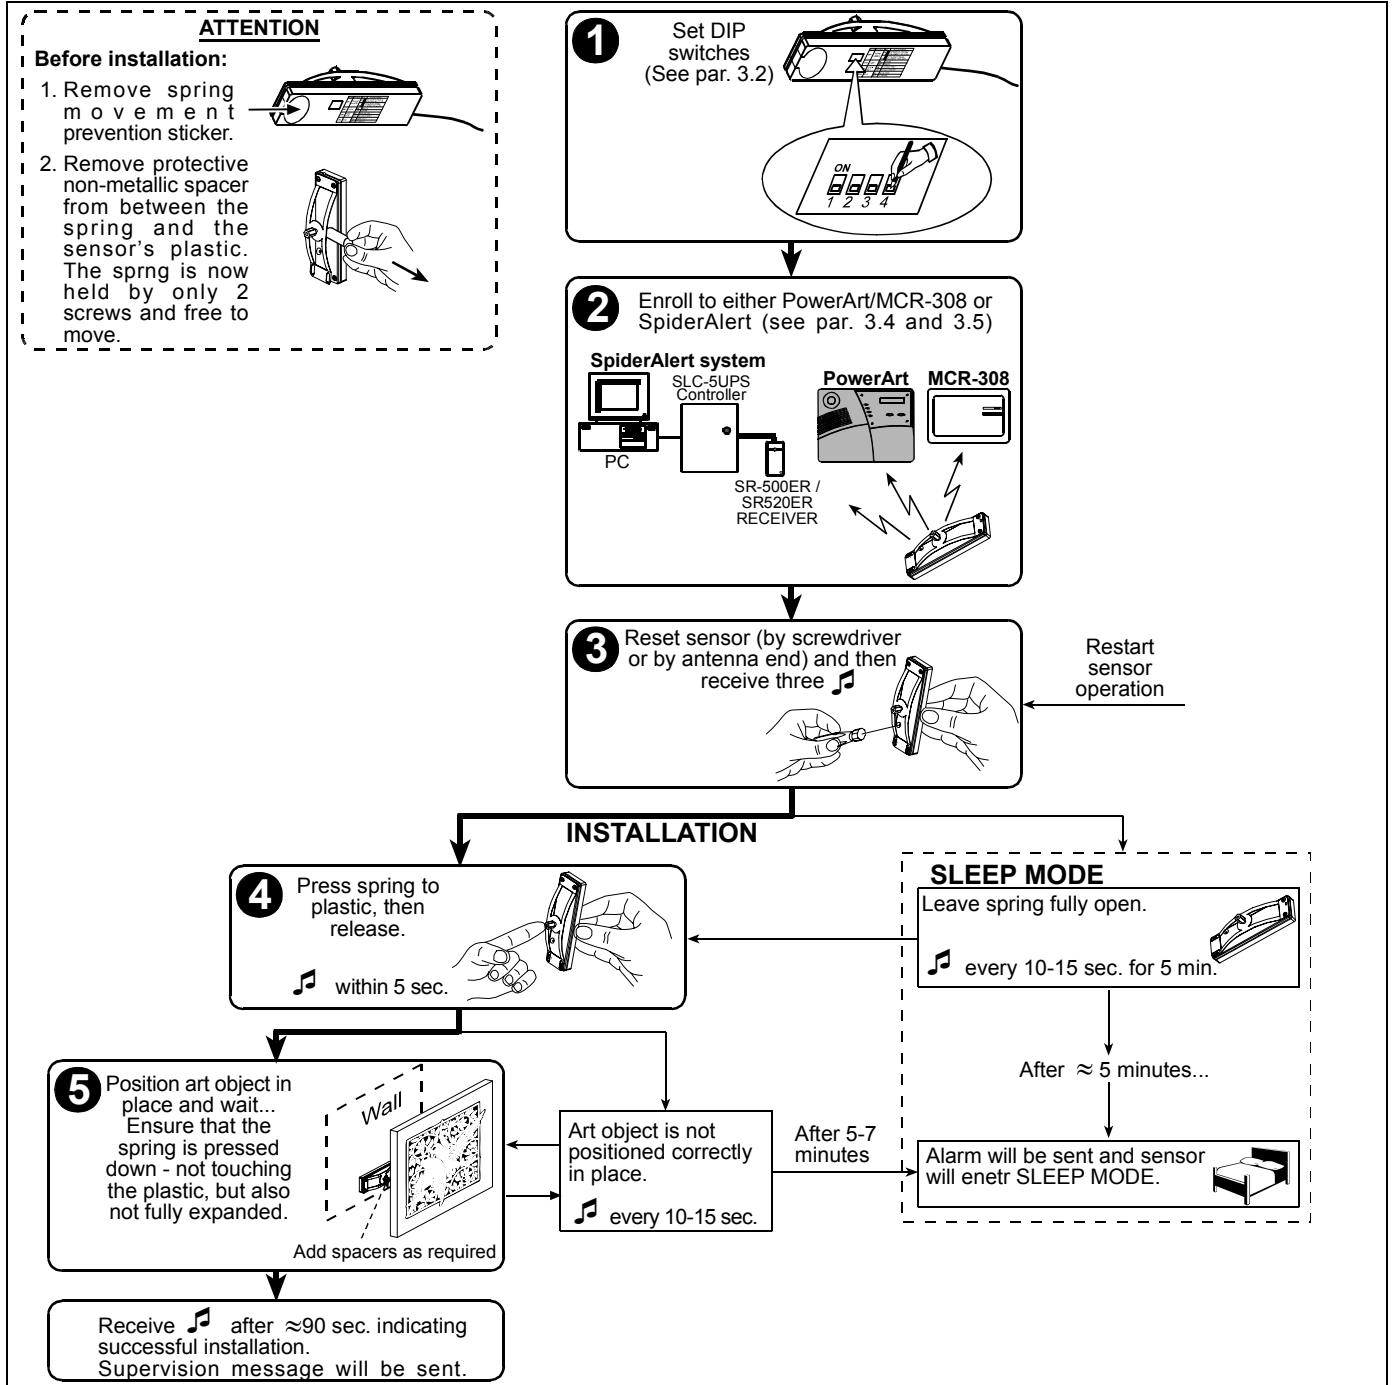

Figure 5 - Five step Installation
- A. Teach PowerArt (see par. 3.2G in PowerArt Prog. Guide) or MCR-308 (see par. 3.5 in MCR-308 installation instructions). When instructed to transmit, initiate SPD-1000 low severity alarm transmission by momentarily pressing the Reset switch (see figure 5, step 3), or by moving the secured object.
B. Initiate low severity alarm transmission by momentarily pressing Reset switch (see figure 5, step 3).